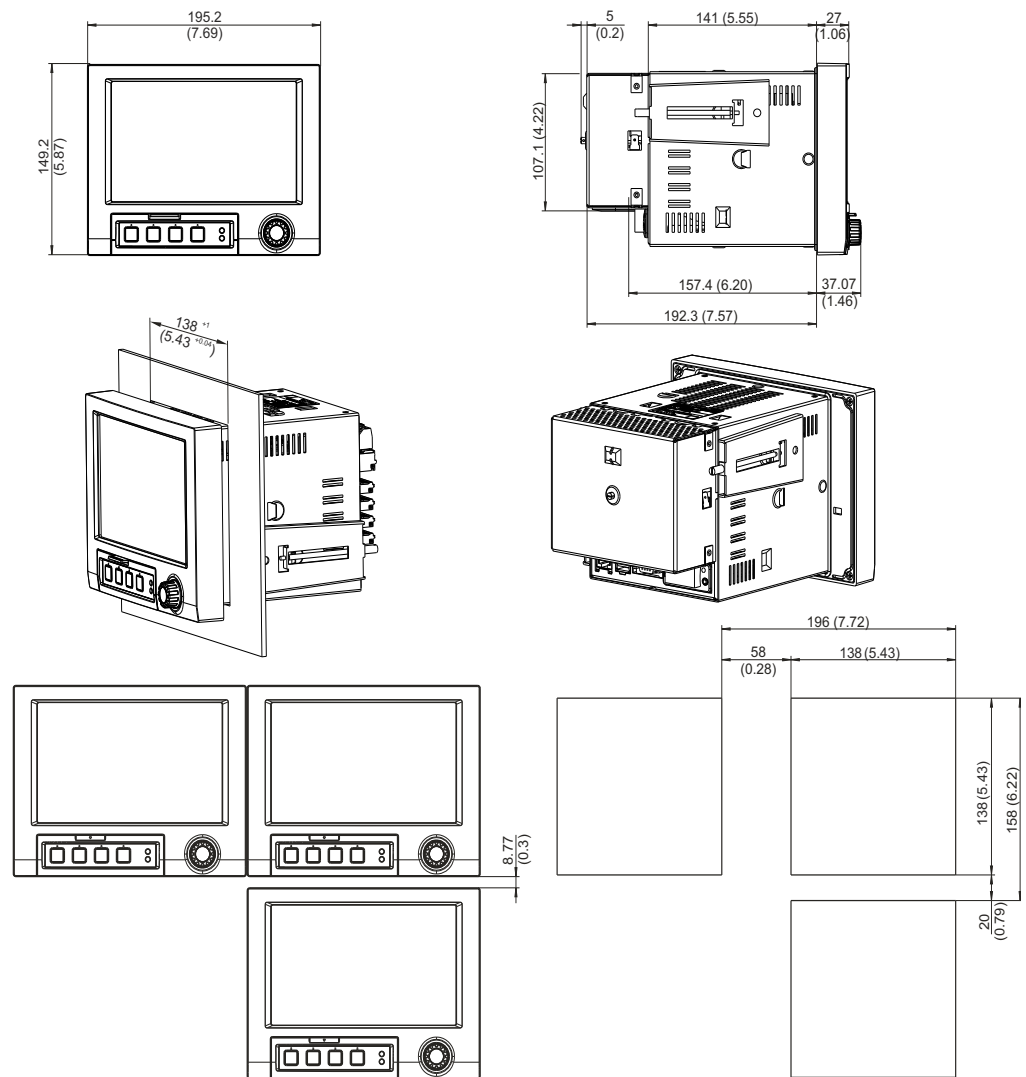

Fig. 3: Panel mounting and installation dimensions. All dimensions in mm or (inch)
2. Hold the unit horizontally and then hang the two jack screws into the openings (either as shown in figure 3 the upper opening on the left and the lower opening on the right side of the housing, or use the openings on top and bottom of the housing).